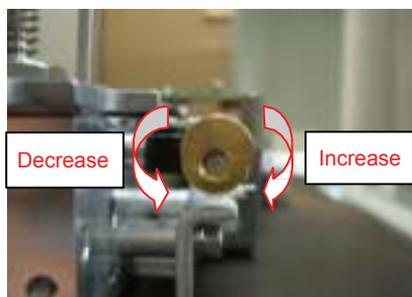

Fig. 4-2
- 8) Repeat the above procedures 5) to 7) to perform adjustment, and when adjustment is complete, use the nut M3 to lock the balance weight (U20). (Fig. 4-2 and 4-3)